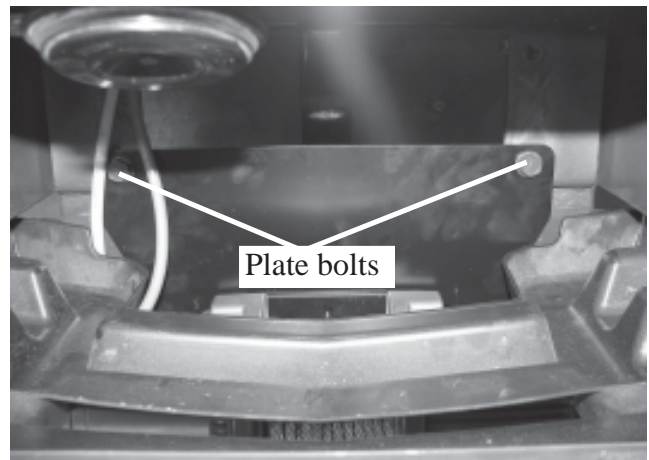

Figure 7
- Use two of the 10mm bolts from step 1 to fasten the mounting plate to the vehicle frame, Figure 7. Do not tighten the 10mm bolts at this time.